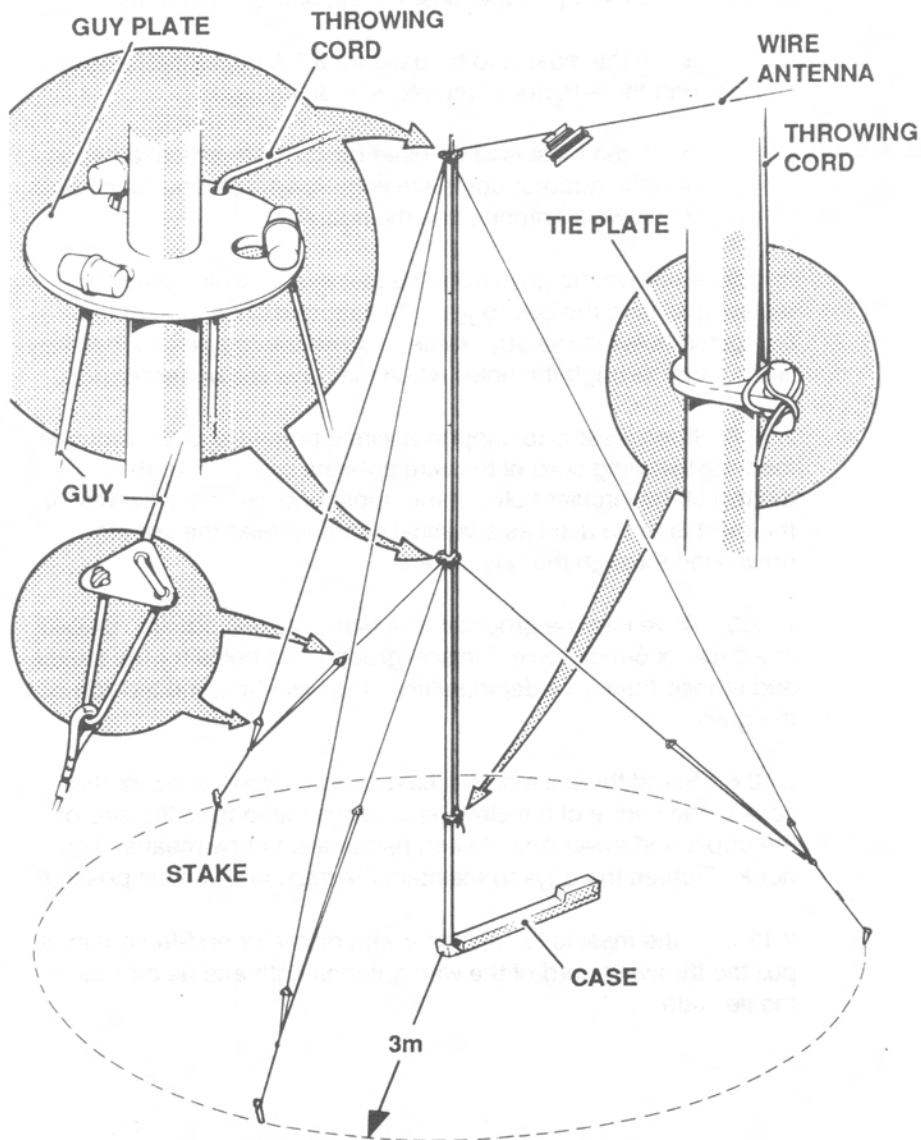
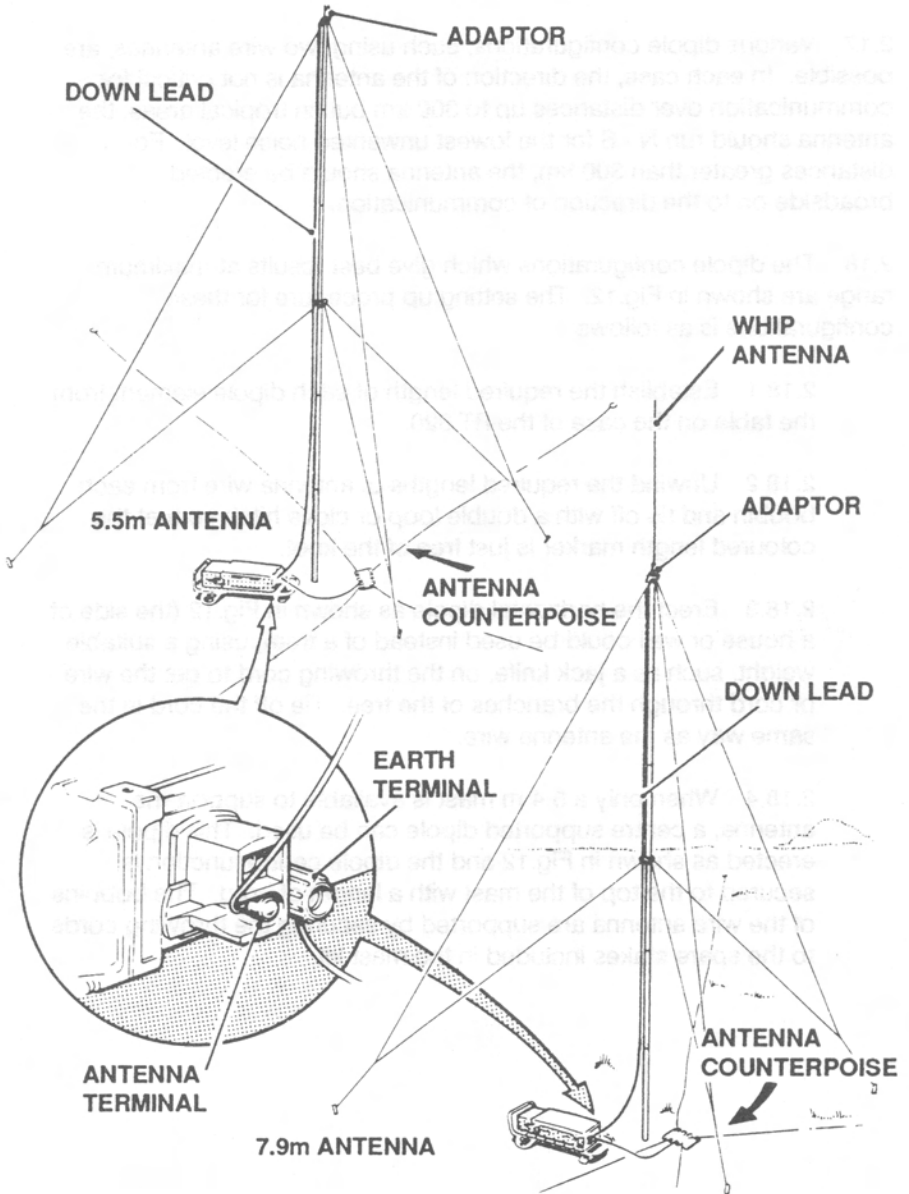

Fig.9 Erection of 5.4 m Mast with Wire Antenna
Fig.11 5.4m Mast with Ground Wave Vertical Antennas
5.4 m MAST (Fig.9, page 30; Fig.11, page 33)
GROUND WAVE VERTICAL ANTENNAS (Fig.11 overleaf)